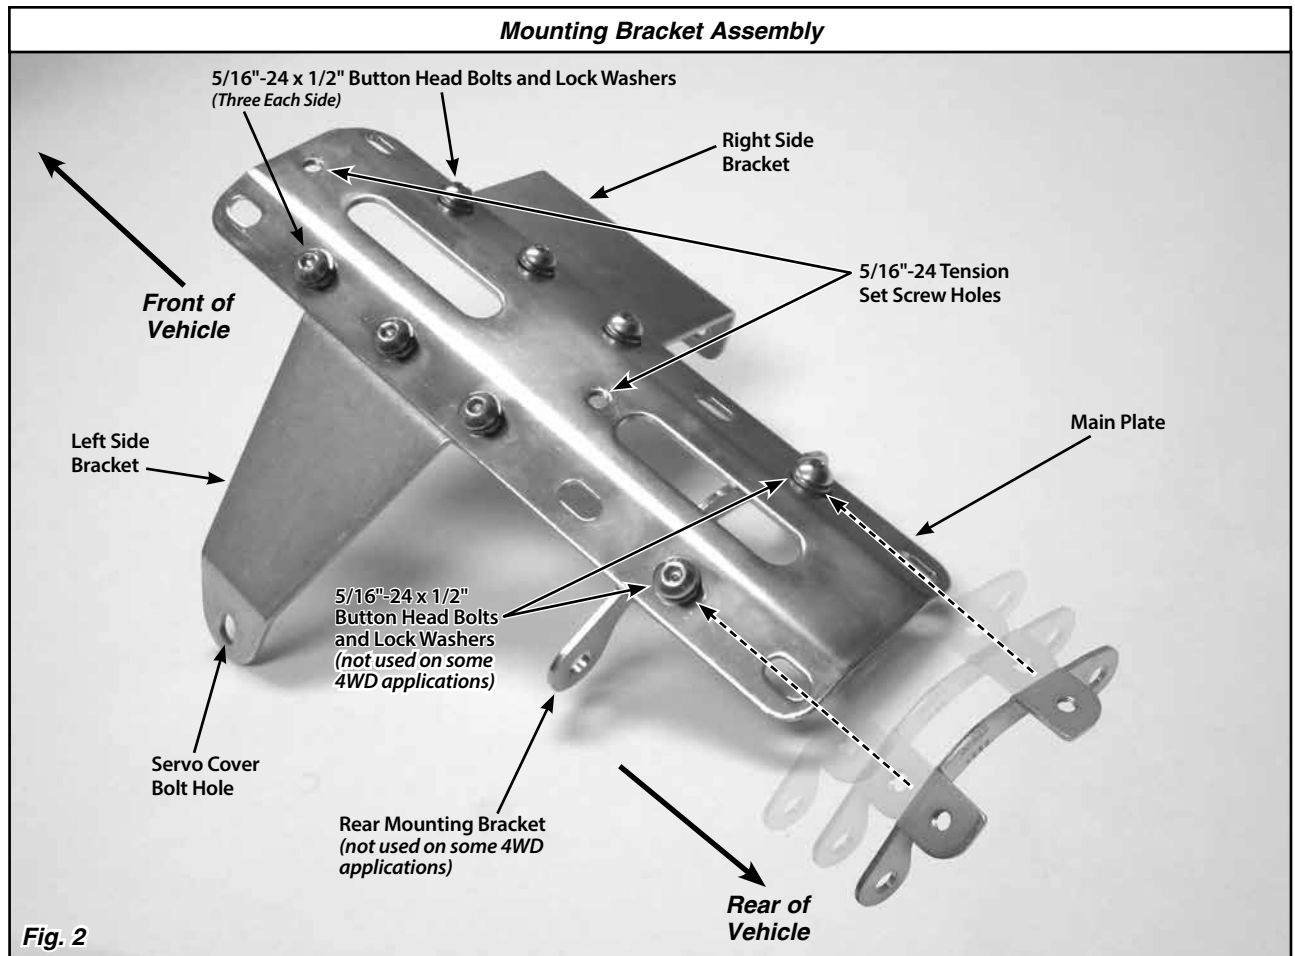

Fig. 2
The left side bracket and right side bracket bolt directly to the main plate. The 1st pair of holes at the very front of the main plate will not be used, and the side brackets will bolt into the 2nd, 3rd, and 4th pairs of holes from the front of the main plate. Attach the side brackets to the underside of the main plate as shown in **Fig. 2**, using three 5/16"-24 x 1/2" button head bolts and lock washers on each side. **DO NOT TIGHTEN AT THIS TIME.**
Step 3: Attach the rear mounting bracket to the underside of the main plate with two 5/16"-24 x 1/2" button head bolts and lock washers, using the second pair of holes from the back. The bracket ears should point to the rear end of the transmission (toward the rear axle) as shown in **Fig. 2**. **DO NOT TIGHTEN AT THIS TIME.**